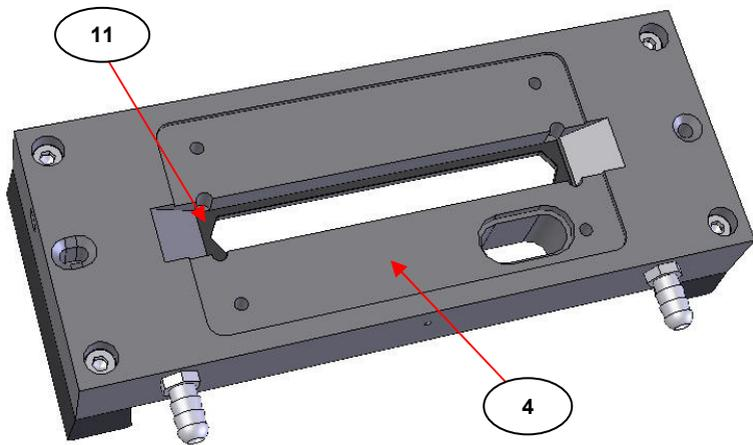

Fig 8. Kalrez Gasket Seal in the Gateway™ ATR Water Heated Trough Top Plate
When the ATR crystal (7) has been removed from the Top Plate assembly, access can be gained to the Kalrez gasket seal (11) for cleaning or replacement with new if necessary. (See Fig 8.)
- 1) Having cleaned all of the parts sufficiently and whether installing a new crystal (7) and/or new Kalrez gasket (11), re-assemble the Gateway™ ATR Water Heated Trough Top Plate first by aligning correctly and centrally the Kalrez gasket seal (11) into the underside channel recess of the main body plate (4). (See as Fig 8.)
- 2) Insert the ATR crystal (7) into the recess channel of the main body plate (4) with the longer top surface of the crystal pressing against